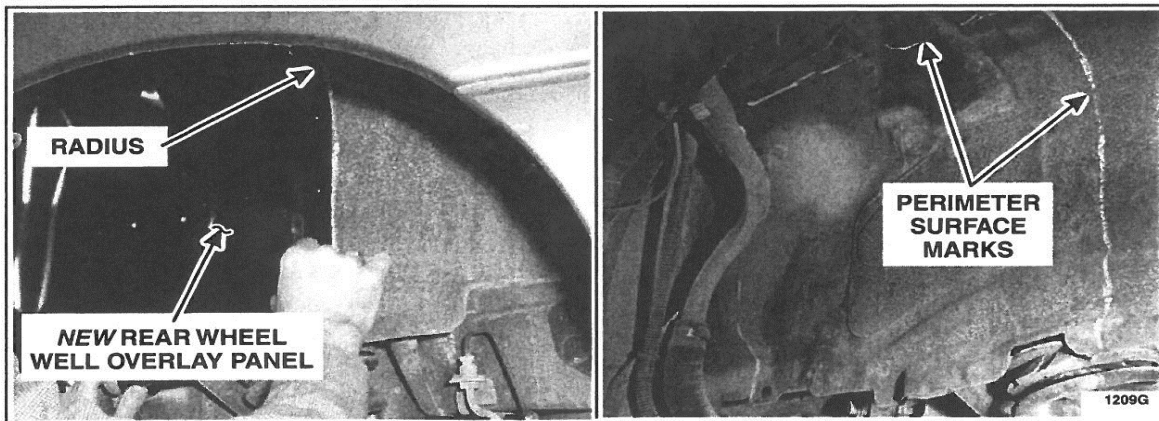

FIGURE 10
23. Place the *new* RH and LH rear wheel well overlay panels into position. Use a suitable paint pen to mark the position around the perimeter of the panels on the surface of the wheel wells. See Figure 10.